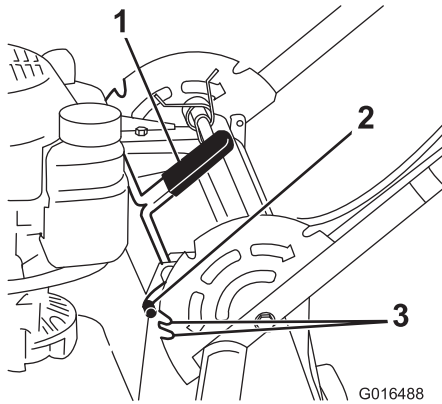

Figure 18
1. Pull the handle-lock lever rearward to disengage the handle-lock pins (Figure 18).
2. Rotate the handle and align the desired notch in the handle bracket to the handle-lock pins; refer to Figure 18.